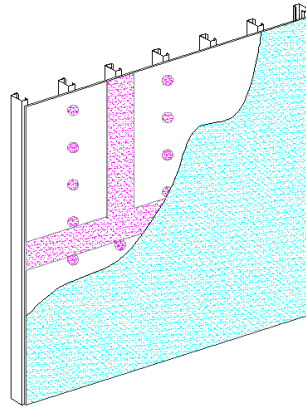

Figure 17
- 1) General: Dryvit Backstop NT - Smooth can be applied using a roller or sprayed and back-rolled over the acceptable sheathing substrates. **NOTE: OSB sheathing requires that joints and fasteners be treated with Backstop NT - Texture. A minimum of two (2) coats of Backstop NT - Smooth or Backstop NT – Spray is required for the field of the wall. Backstop NT - Texture is not recommended for application in the field of the board.**
- b) Backstop NT - Smooth material should be applied in a uniform, continuous film at the recommended coverage rate – Figure 17. **NOTE: Sheathing substrates with a surface texture or high porosity will require additional material.**